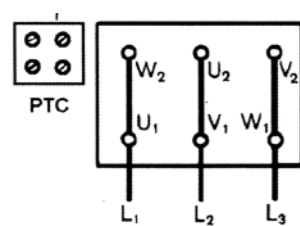

Fig. 3a
- The connection diagram for the electrical connections can be found in the terminal box (see also fig. 3a, b, c).